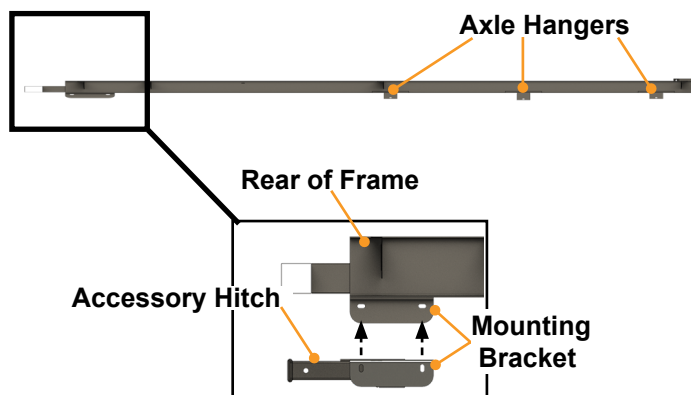

Fig.1
1. Locate the accessory hitch mounting brackets at the rear of the 5th wheel frame (**Fig.1**).
2. With the aid of another person or a jack stand, position the hitch (A) so that the mounting holes on the hitch are aligned with the holes in the mounting brackets on the frame (**Fig.1**).